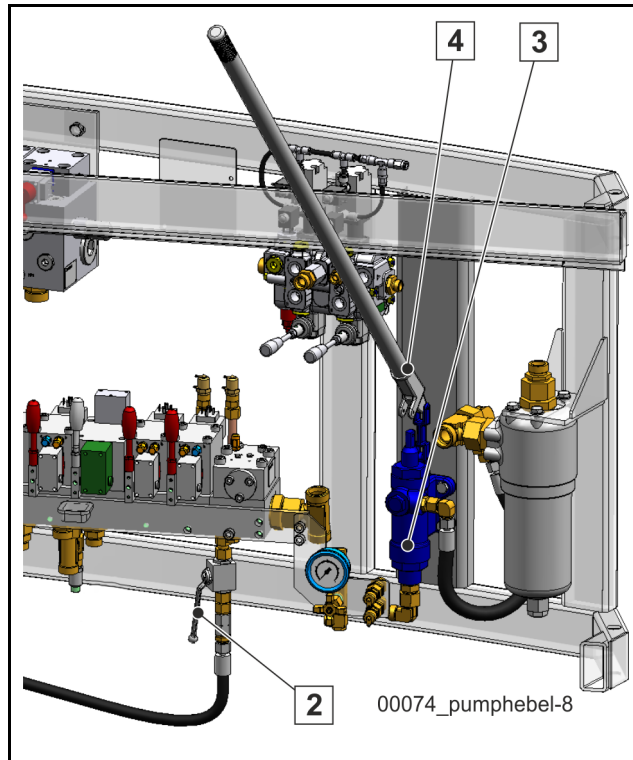

Fig. 234 Ball valve (2), emergency hand pump (3) and pump lever (4) in the control cabinet
The emergency hand pump (3) is preferably located near the placing boom control block (**Fig. 234**).
2. Close the emergency operation ball valve (2) (**Fig. 234**) on the underside of the boom control block in the control cabinet, as otherwise the pumped oil will escape to the tank via a nozzle built into the control block.
3. Place the pump lever (4) onto the emergency hand pump (3) (**Fig. 234**).